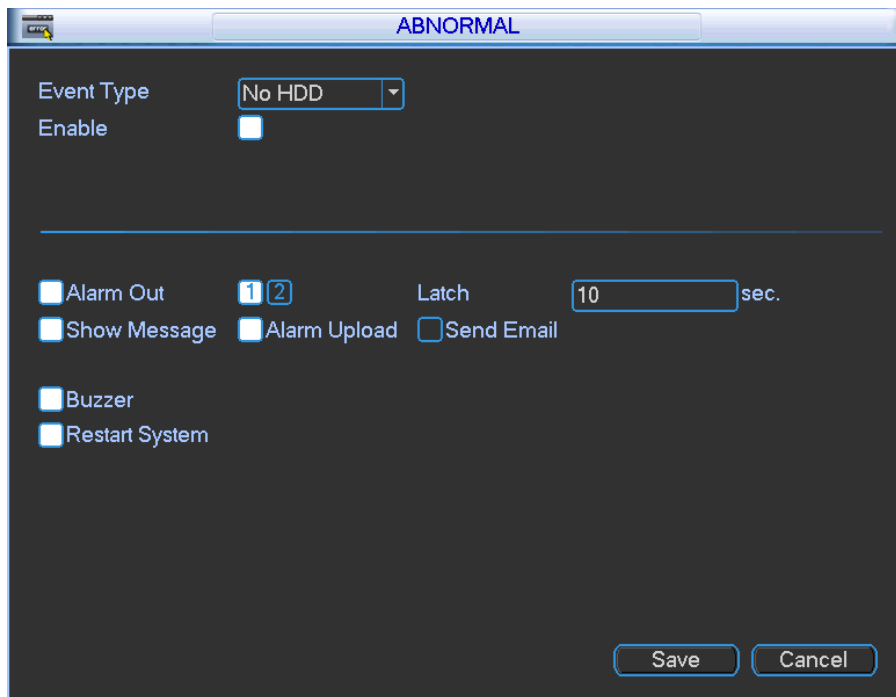

Figure 4-80
- Alarm set: Click alarm set button, the interface is shown as below. See Figure 4-80. (This interface is just like the abnormality setup). Please refer to chapter 4.8.5 for detailed information.